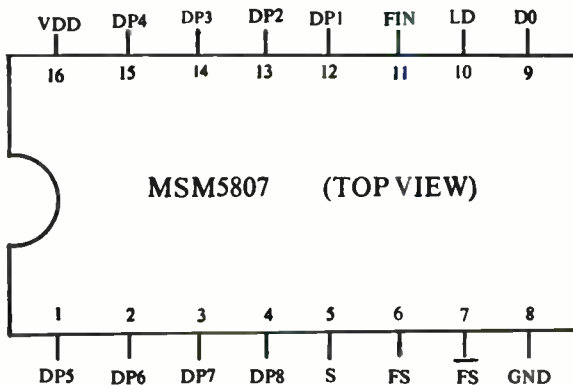

Fig. C-1. Top view of the MNM5807 PLL IC (courtesy of OKI Semiconductor).
The MSM5807 IC is a CMOS 16-pin dual-in-line IC in a plastic package. An outline drawing of the MSM5807 is shown in Fig. C-1. The nominal operating voltage (VDD) is 6 volts. The maximum clock frequency of the programmable divider is 5 MHz. The maximum divisor of the programmable divider (N) is 255. There is no code converted used in this IC so the N value will be equal to the decimal equivalent of the programming code.